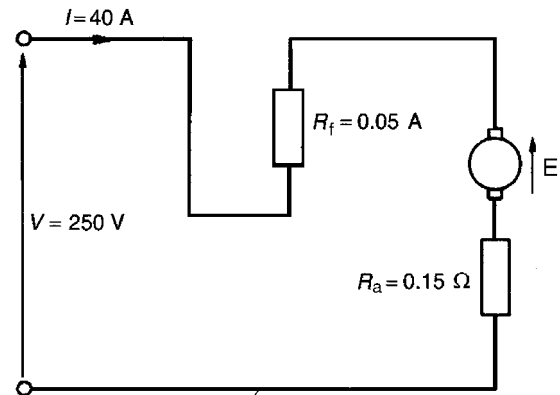

Figure 22.27
The circuit is as shown in Fig. 22.27 From equation (10), efficiency,